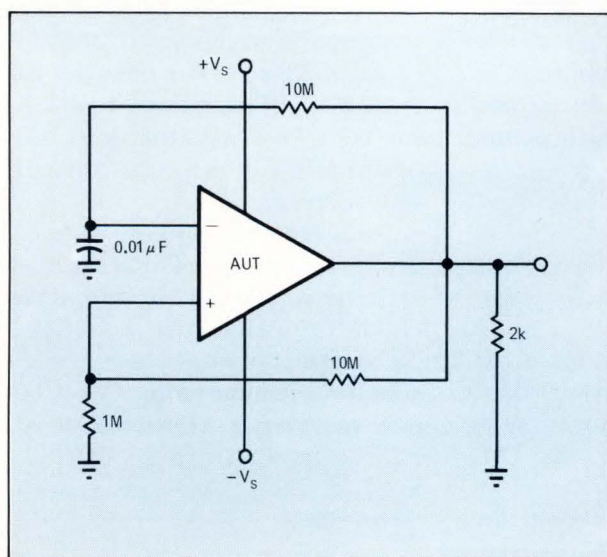
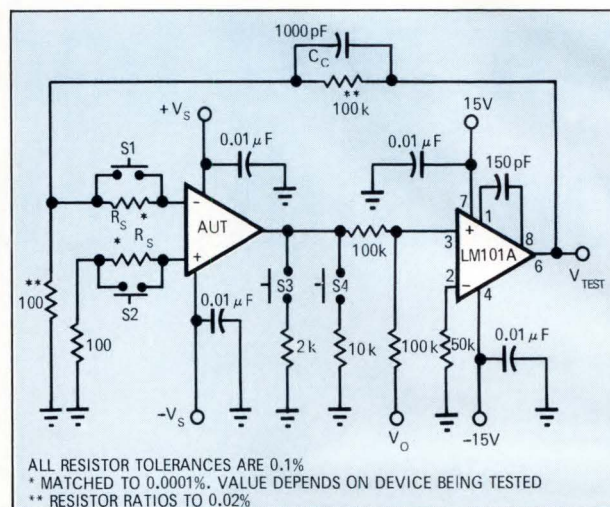
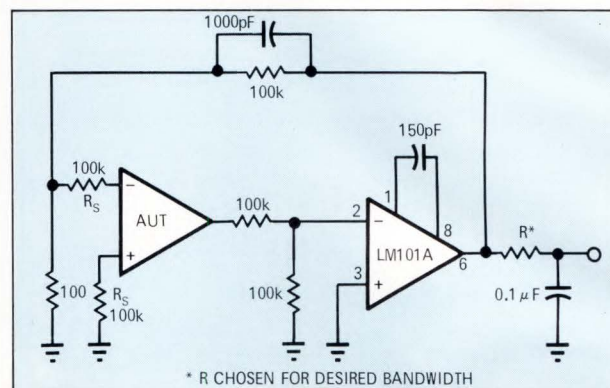

Fig. 1—Simple functional testing of an op amp is possible with this basic circuit. It ensures that the amplifier is operational.
Fig. 2—Complete op amp testing for dc characteristics can be achieved with this test circuit. Table 1 should be used in conjunction with this circuit.
Fig. 4—Measurement of op amp noise currents and "popcorn" noise is easily achieved with small variations of Fig. 2.
If the dc characteristics are not critical, a simple circuit such as that shown in Fig. 1 may be used. This circuit simply ensures that the device operates and that it will perform its required function. Complete dc testing however requires a more sophisticated test circuit than that of Fig. 1. Such a circuit is shown in Fig. 2. Table 1 provides a detailed step-by-step "cook book" approach, using a 741 op amp as an example, to be used in measuring and calculating the data
sheet electrical parameters using the circuit of Fig. 2.
The dc parameters listed in Table 1 are by no means the only ones by which to judge an op amp's performance. Slew rate and noise are two important op amp characteristics that can be tested by Fig. 3 and Fig. 4, respectively. Fig. 3a depicts a circuit suitable for measuring slew rate, small-signal reset time and overshoot. To minimize phase shifts that alter amplifier rise time and overshoot, a small capacitor is added across the feedback resistor. This capacitor compensates for the simulated inductance across the input. For example, the commonly used circuit shown in Fig. 3b has a faster rise time and more overshoot than the one in Fig. 3a. A 100-pF capacitor is added across the 10-k feedback resistor, in Fig. 3b for a more accurate measure of slew rate, rise time and overshoot.
Fig. 4 shows the schematic diagram for a general-purpose op amp noise-test circuit that can measure both noise currents and "popcorn" noise. Note that this circuit is only a slight modification of the one in Fig. 2.
Note 1: To measure V_{IO} , I_{IO} or I_{IB} at common-mode voltage (Fig. 2), the power supplies are manipulated as follows:
To prevent these test-circuit problems, use the test circuit Fig. 2 and follow the precautions listed below:
1. Check for oscillation of the test loop. Incorrect compensation of the buffer amplifier will cause oscillations which show up as excessive offsets, low gain, high supply current, or as oscillations. A capacitor, C_C in Fig. 2, will normally stabilize the loop.
When using source resistors (R_s), they must also be matched to minimize the error due to bias-current change with input voltage. This is also necessary when using the circuit in Fig. 2. During the era of the 709 op amp, a resistor match of 0.02% was sufficient. For modern op amps, such a match of 2 parts in 10^4 is twice the magnitude of the error that you're trying to measure. This will either add to or subtract from the CMR error of the op amp.